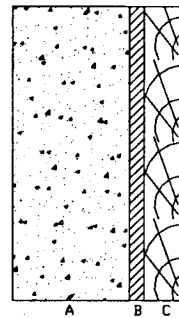

Figure 2
- (b) Determine the moisture transmission in 30 days across  $1\text{m}^2$  of a wall of a building composed of three layers as shown in Figure 2. The pressure difference across the wall is 564 Pa. The permeance of the materials are as follows: (8 marks)